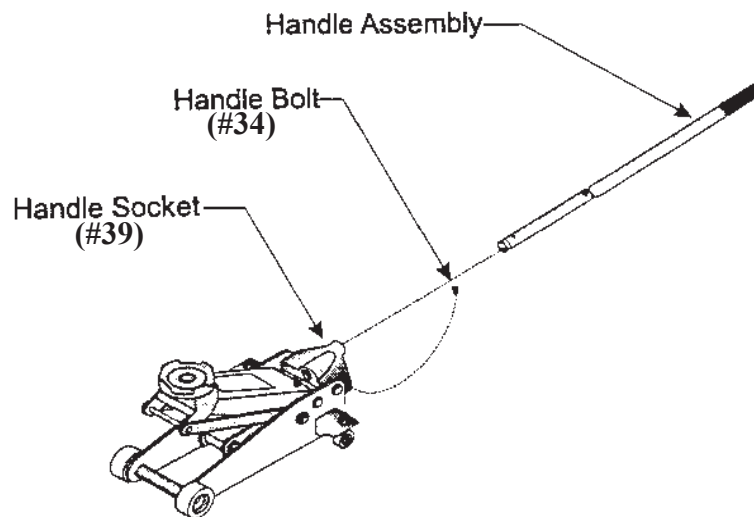

Figure 2 -- Jack Assembly
Step 6: Thread HANDLE BOLT into HANDLE SOCKET and securely hand tighten the bolt as shown in Figure 2.